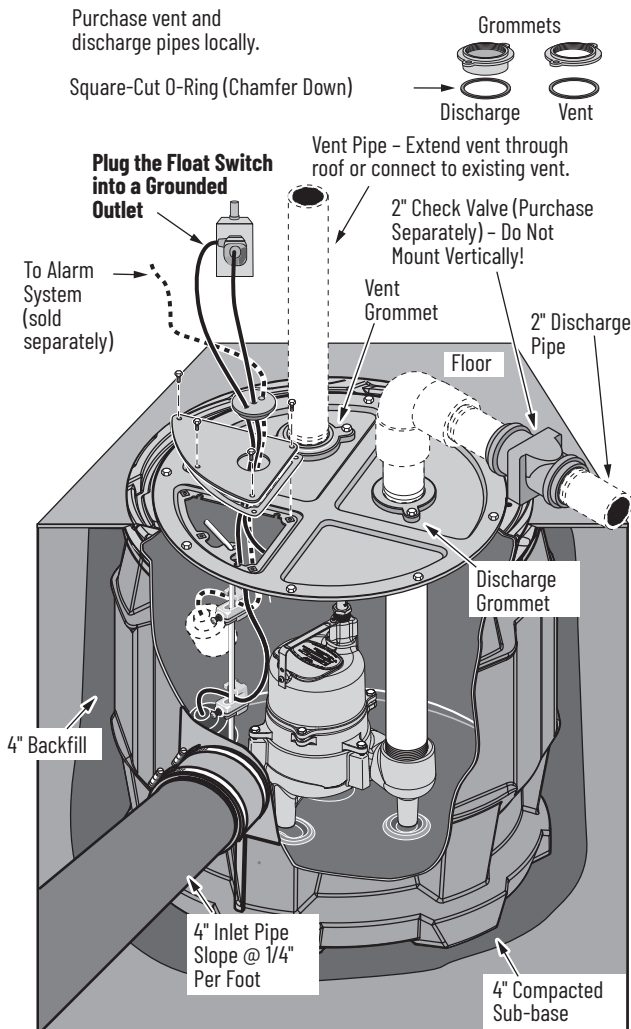

Figure 1 - Typical Installation
1. Dig the hole for the sewage basin and the sub-base. The hole must be deep enough so that the finished floor is flush with the top of the basin (Figure 1). The sub-base requires 4" of sand or gravel/ crushed rock. Crushed rock pieces should not be larger than 1/2" while the recommended diameter of the pea gravel pieces should not exceed 3/4".
8. Install the 2" check valve in the horizontal portion of the discharge pipe (Figure 1). Make certain the flow-indication arrow points away from the pump. This check valve will keep the water from running back into the basin when the pump is not running.